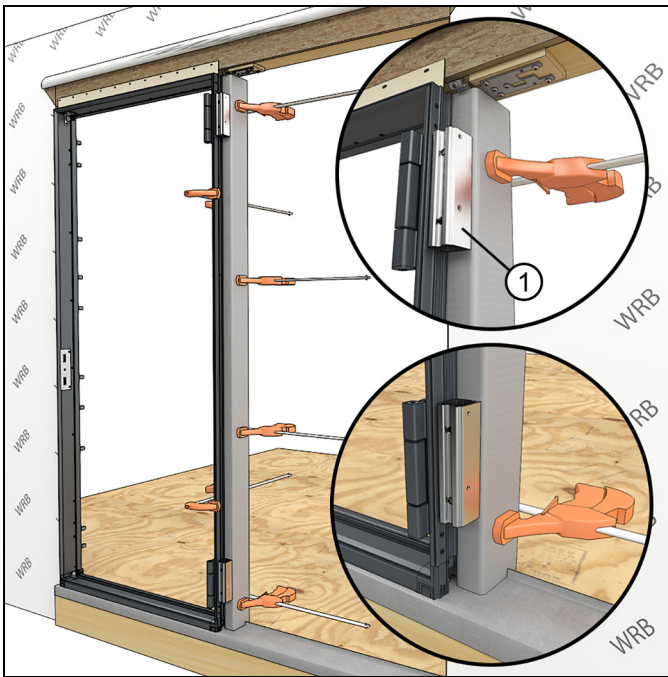
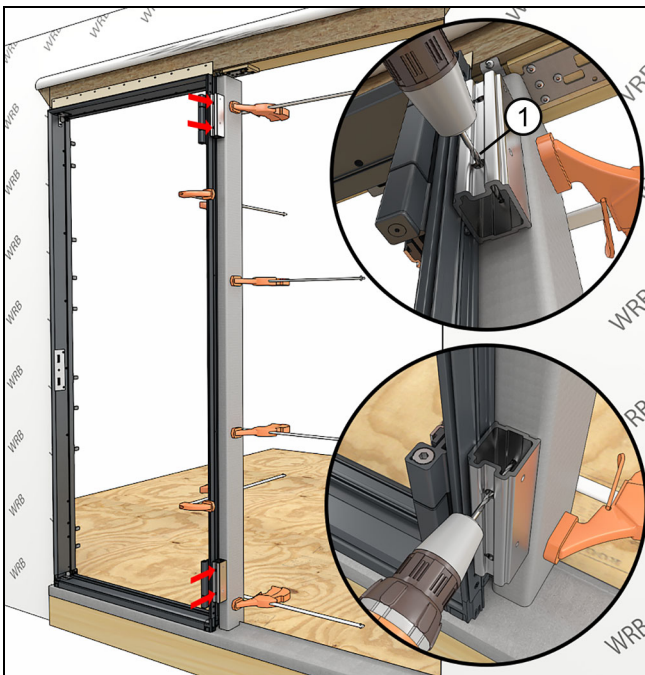
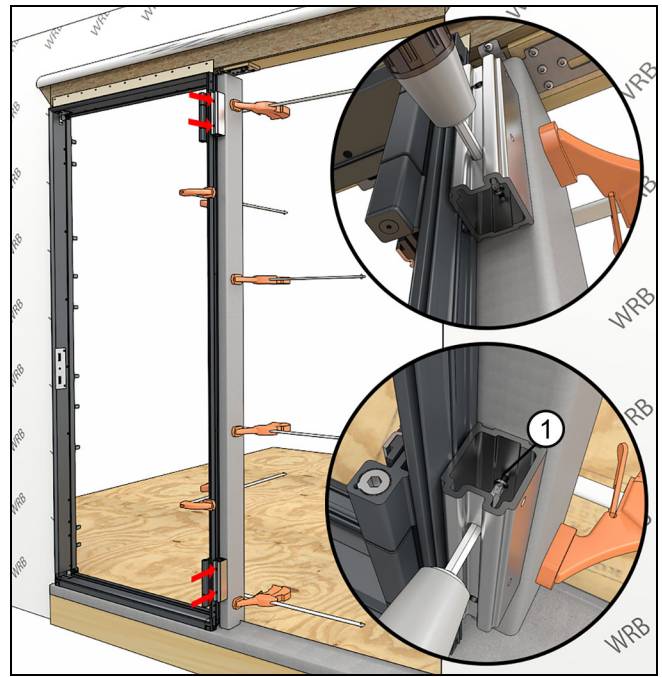

Figure 255 Clamp tube steel to frame against aluminum mull filler blocks.
Figure 256 Predrill into tube steel
Figure 257
1. Fasten the tube steel to the aluminum mull filler blocks using the access holes on the mull filler blocks. Pre-drill with #23 drill bit and fasten with #8 x 1/2" trilobular screws. See Figure 255, Figure 256, and Figure 257.